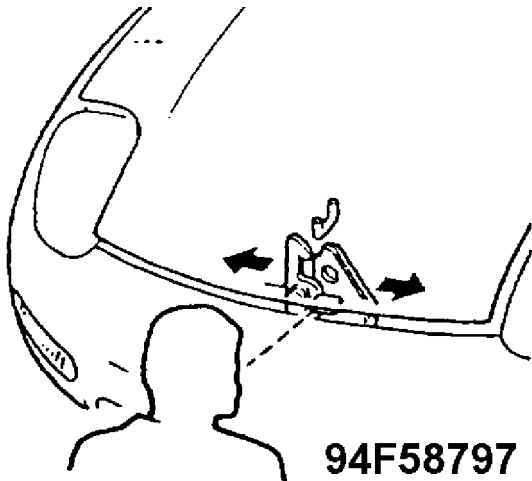

Fig. 1: Hood Lock Adjustment
1. Adjust the location of the hood lock. Latch the striker into the center of the lock. Check the clearance of the striker latch to the lock. (You can see the lock between the hood and bumper fascia), then adjust the location of the lock to the right or left until the clearance is even. See Fig. 1.